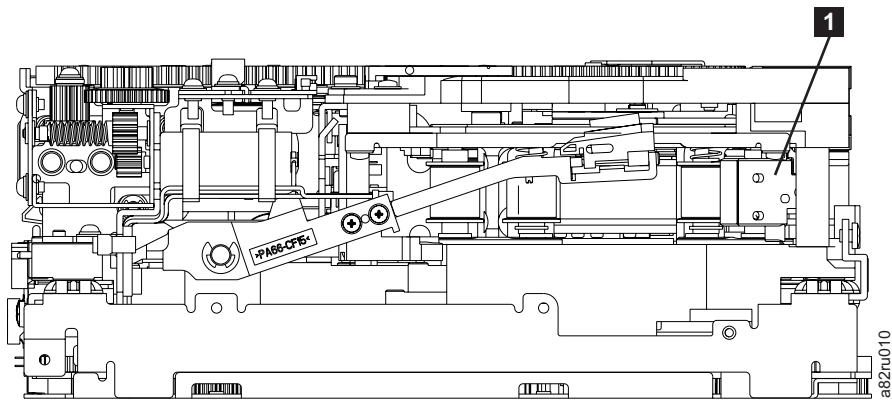

Figure 172. Leader Block Assembly (LBA)
10. Rotate the threader motor worm gear ( **4** in Figure 171 on page 285) to turn the threader mechanism gear ( **6** in Figure 171 on page 285) counterclockwise. This moves the LBA out of the cartridge and past the read/write head. Stop this rotation when the LBA is near the tape guide roller nearest the rear of the drive shown as **1** Figure 172.